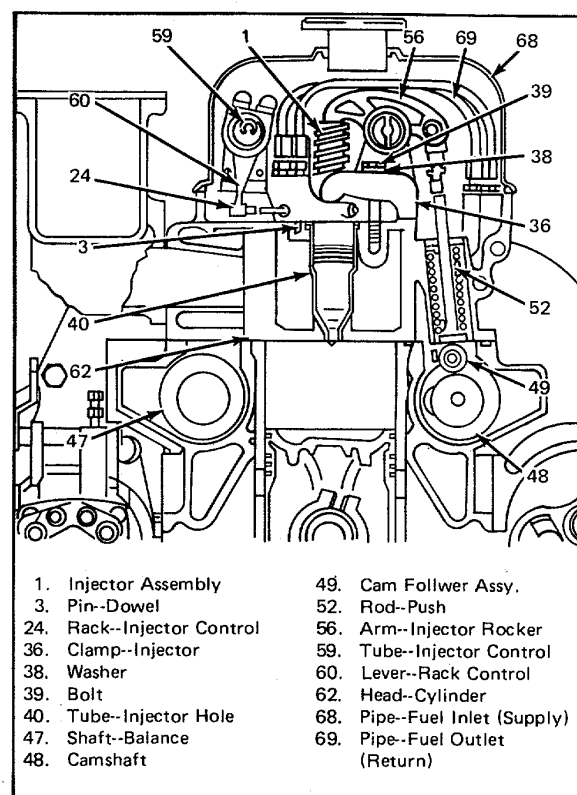

Figure 6. Fuel Injector Mounting.
The motion of the injector rocker arm is transmitted to the plunger by the follower which bears against the follower spring (Fig. 6). In addition to the reciprocating motion, the plunger can be rotated, during operation, around its axis by the gear which meshes with the control rack. For metering the fuel, an upper helix and a lower helix are machined in the lower part of the plunger. The relation of the helices to the two ports changes with the rotation of the plunger.
2. Remove the fuel pipes from both the injector and the fuel connectors (Fig. 6).